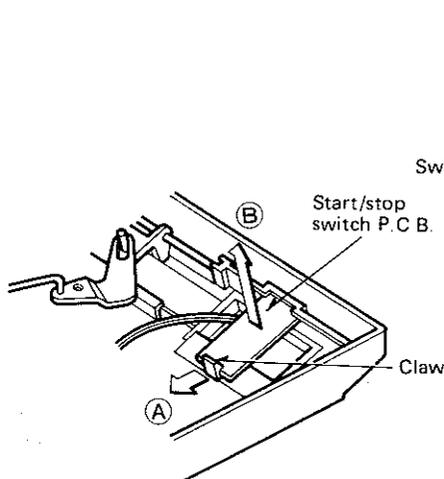

Fig. 11
2. Push the claw in the direction of the arrow (A) (Fig. 11)